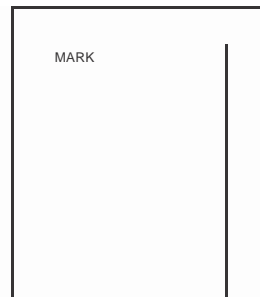

Figure 3
6. Unbolt and remove system connection after marking flanges (Fig. 3).
22. Rebolt system connect after aligning flange marks (Fig. 3). Torque to 40-50 ft. lbs.